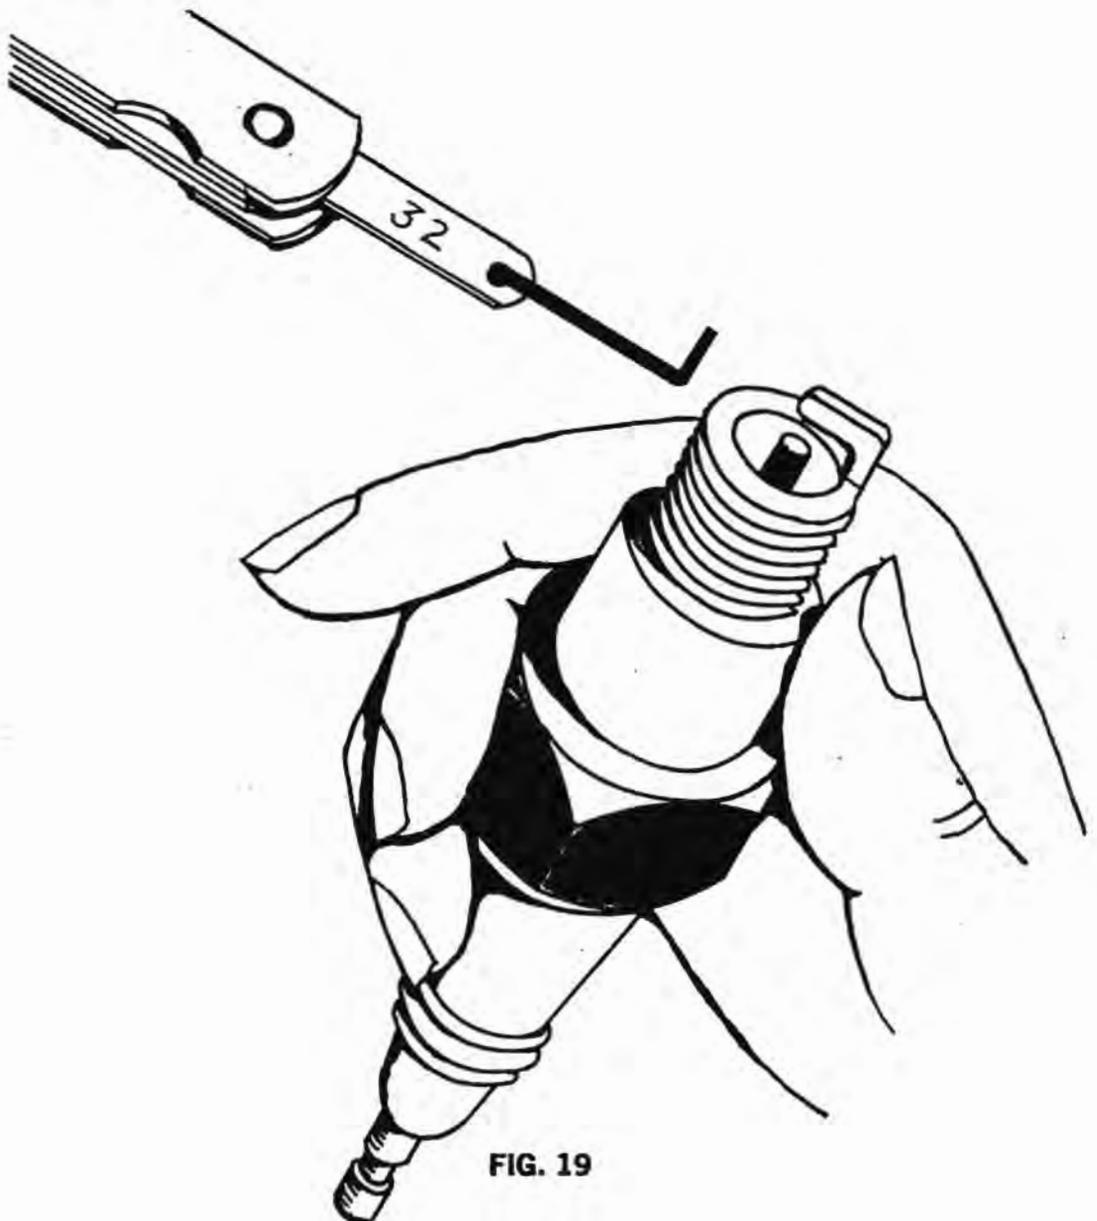

FIG. 19
5. Gap the plugs as shown in Figure 19 according to specifications in the table. If the gaps have eroded away considerably, it is best to replace such plugs with new ones. When adjusting the gap, never pry against the center electrode as this may damage the insulator and seal. Use a plug tool or long nose pliers to adjust the position of the ground electrode.